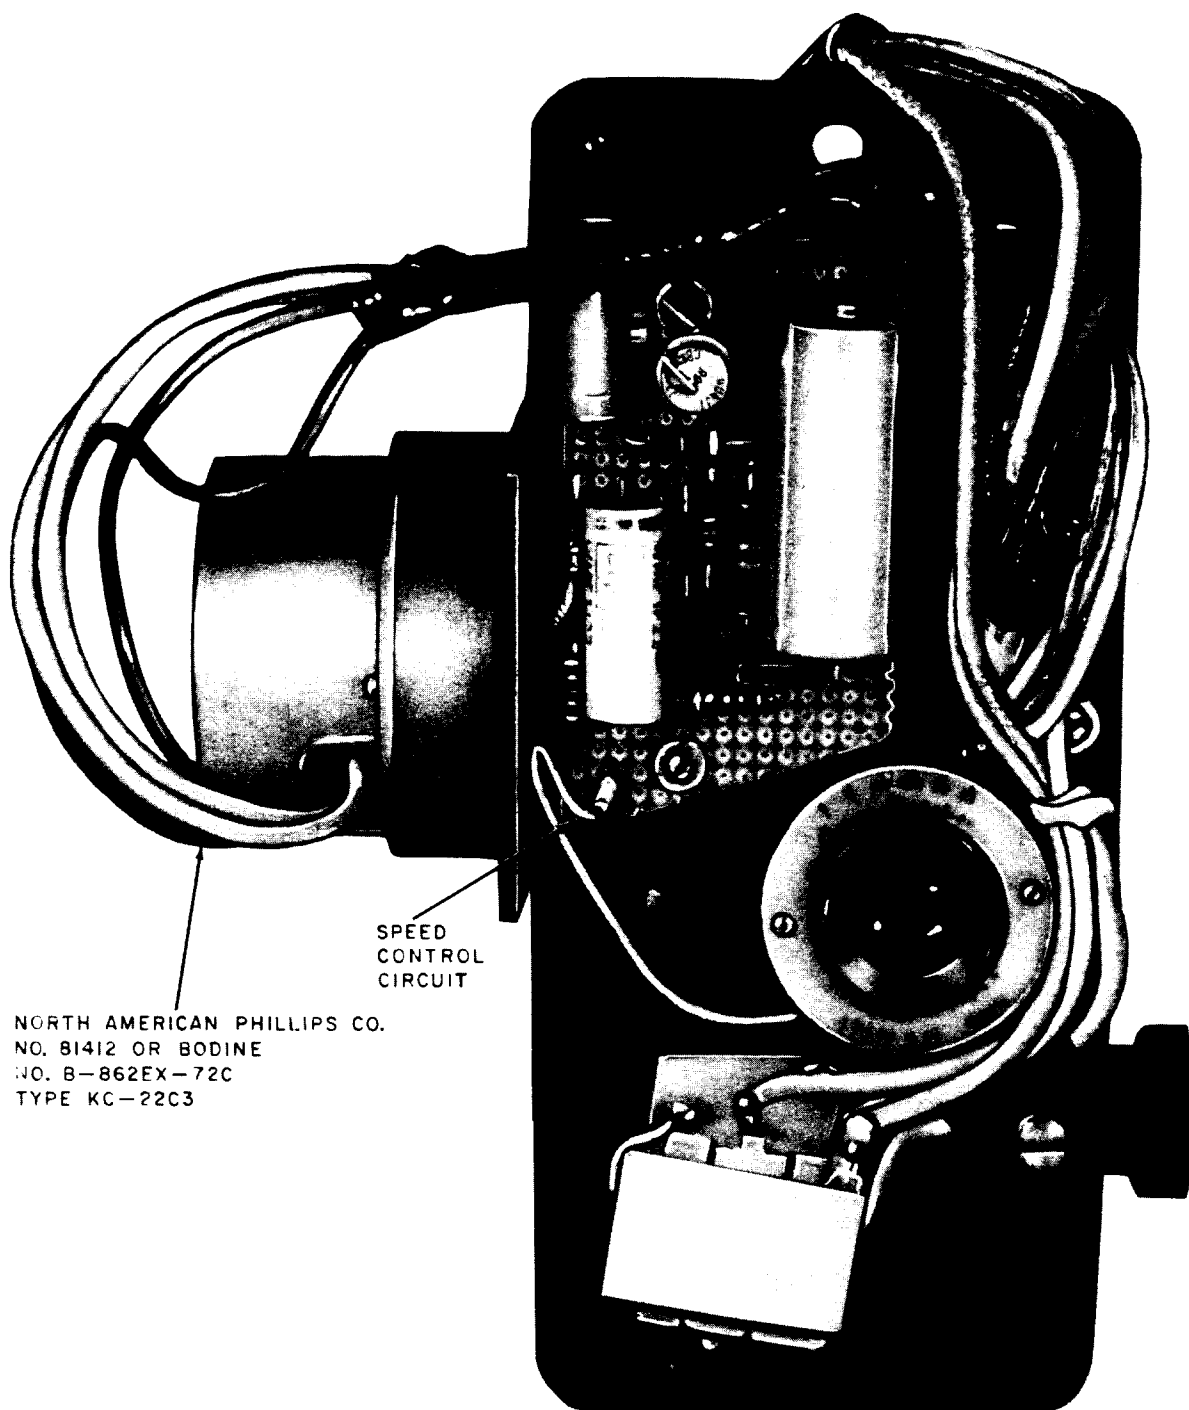

Fig. 3—♦KS-16007 Camera With KS-19438 L3 Shutter♦
1.12 ♦The KS-19438 L3 shutter (Fig. 3) consists of the following elements:
1.13 The KS-19438 L3 electronic shutter speed control circuit, controlling the DC shutter solenoid, operates from a 120 Vac input pulse. The AC input pulse is converted to a DC supply voltage by a regulated half-wave rectifier circuit. The DC supply voltage energizes the shutter solenoid through a transistorized RC timing and drive circuit. This circuit energizes the shutter solenoid for the desired shutter speed duration. (See Fig. 3.)♦